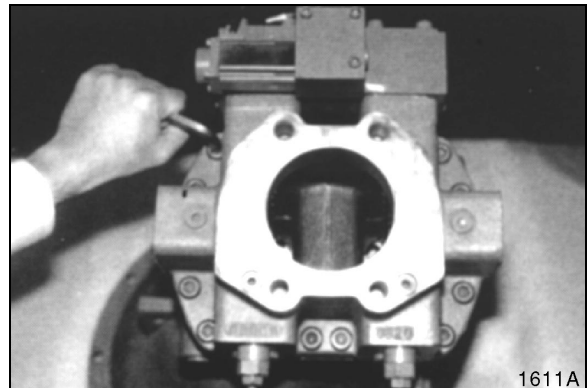

Figure 18
4. Remove control section hex bolts. See Figure 18.